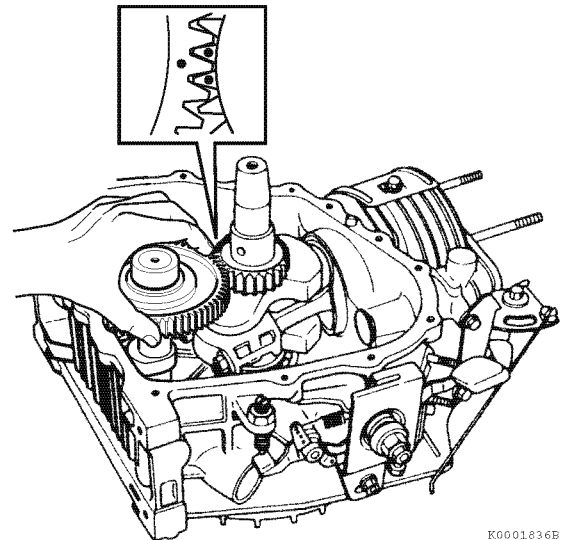

Figure 6-41
- Identify the location of the camshaft gear and crankshaft gear alignment marks (**Figure 6-41**). These marks are important for reassembly.